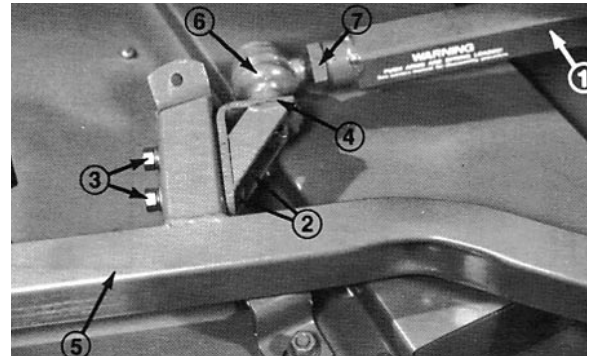

Figure 10
6. Have a helper push down on the left push arm while you remove the capscrews, flatwashers, lockwashers and nuts securing ball joint mount to mount bracket on the cutting unit (Fig. 10). Now the helper can carefully allow push arm to move upward which will gradually release the spring load.